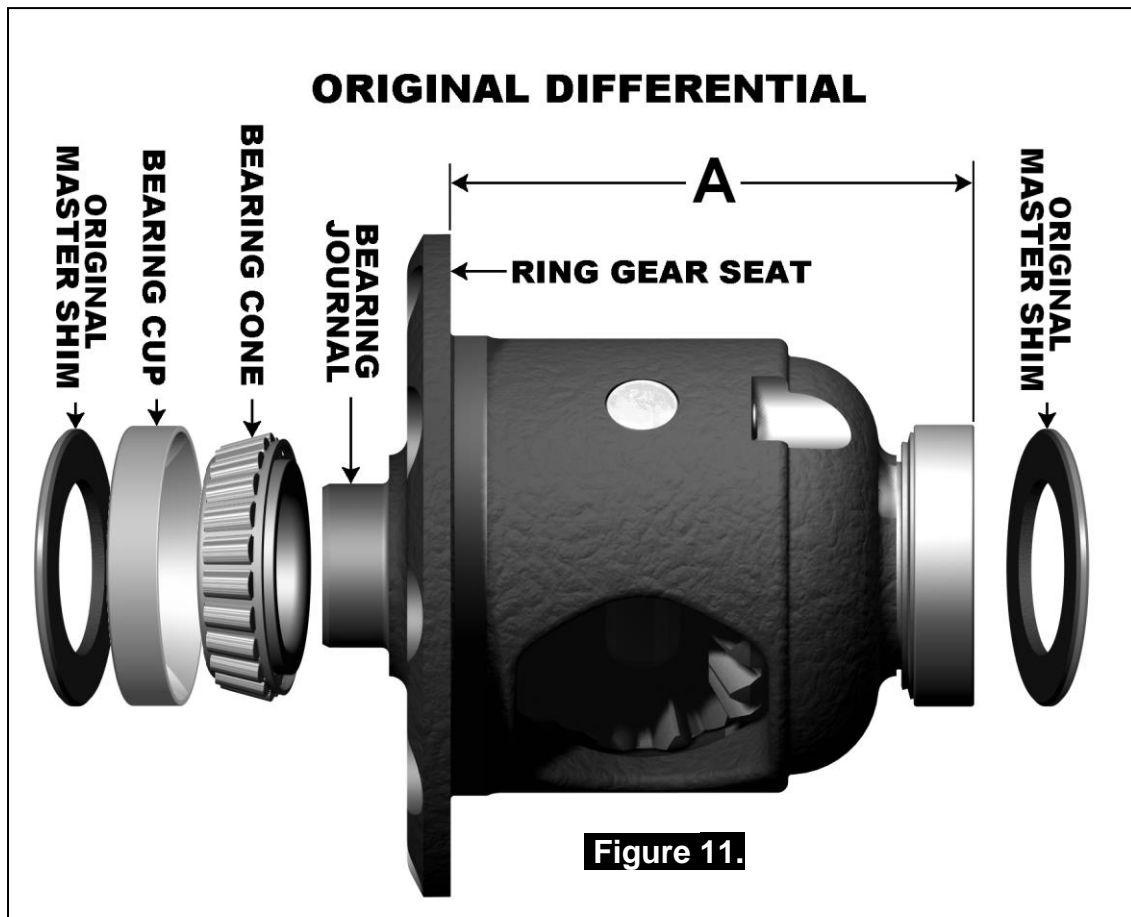

Figure 11.
- Using a caliper or similarly accurate measurement method (i.e., able to take accurate measurements within 0.04mm [0.0015"]), measure the distance from the shoulder of the outer face of the bearing cup to the ring gear mounting face (shown as 'A' in Figure 11.) and record this measurement as 'A'.